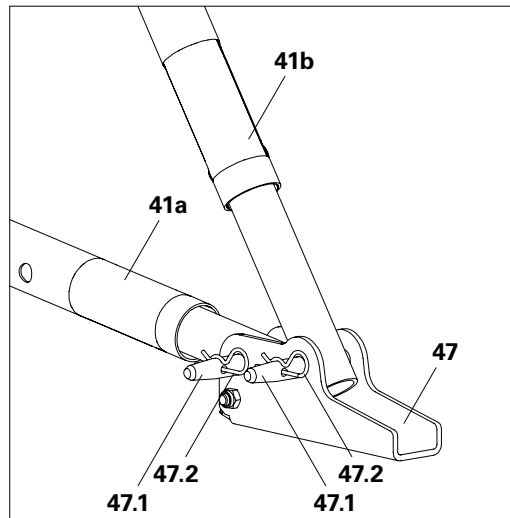

Fig. A6.04
1. Fix the bottom part of the Push-Pull Prop (41a) – here as Kicker – with Bolts (47.1) and Cotter Pins (47.2) to the back of the Base Plate (47).
2. Fix the bottom part of another Push-Pull Prop (41b) – here as Push-Pull Prop – with Bolts (47.3) and Cotter Pins (47.2) to the Base Plate (47).
- (Fig. A6.04)